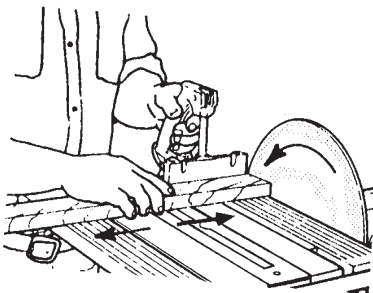

Figure D-18
2. If you're feeding the stock into the disc, place the stock against the miter gauge and feed it toward the disc until it contacts the abrasive. Hold it there for a few seconds, back it off, then feed it forward again. See Figure D-18.